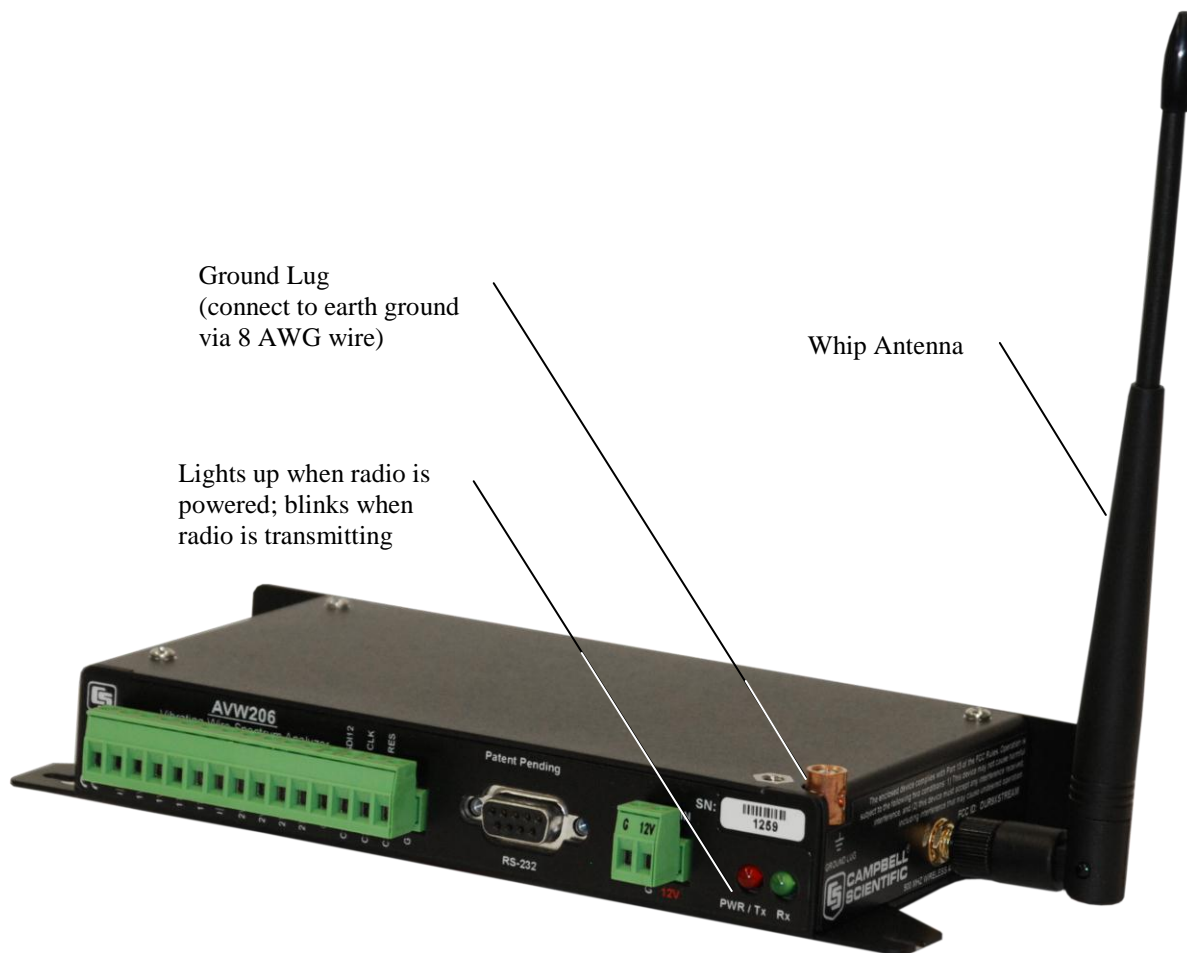

Figure 4.4-1. AVW206 with Whip Antenna
3. Attach the multiplexers to the AVW206 as shown in Figure 4.4.1-1.
The connector on the side of the AVW206, AVW211, and AVW216 is for attaching a whip antenna or an antenna cable (see Figure 4.4-1).